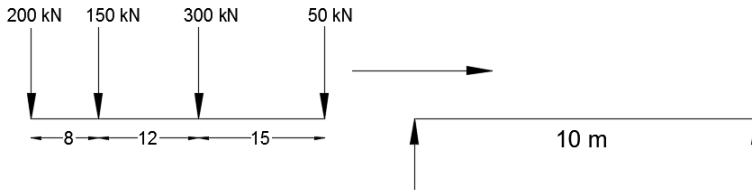

Fig.4
5. (a) A system of wheel loads moves from left end to right end as shown in **fig.4** on a simply supported beam having a span of **10m**. Calculate the maximum bending moment which can occur at a point 4m from the left end. **7M**